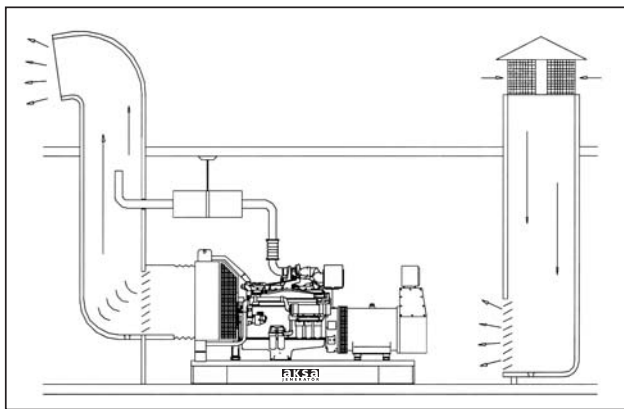

Figure 5.4 Air ventilation
The engine, alternator, and exhaust piping radiate heat which can result in a temperature high enough to adversely affect the performance of the generating set. It is therefore important that adequate ventilation is provided to keep the engine and alternator cool. Proper air flow, as shown in Figure 5.4, requires that the air comes in at the alternator end of the set, passes over the engine, through the radiator and out of the room via a flexible exhaust duct. Without the ducting of the hot air outside the room, the fan will tend to draw that hot air around and back through the radiator, reducing the cooling effectiveness.
(See Figure 5.4 - 5.5)
- ! A flexible connection between the exhaust manifold and the piping system should be used to prevent transmission of engine vibration to the piping and the building and to allow for thermal expansion and any slight misalignment of the piping. (See Figure 5.4)